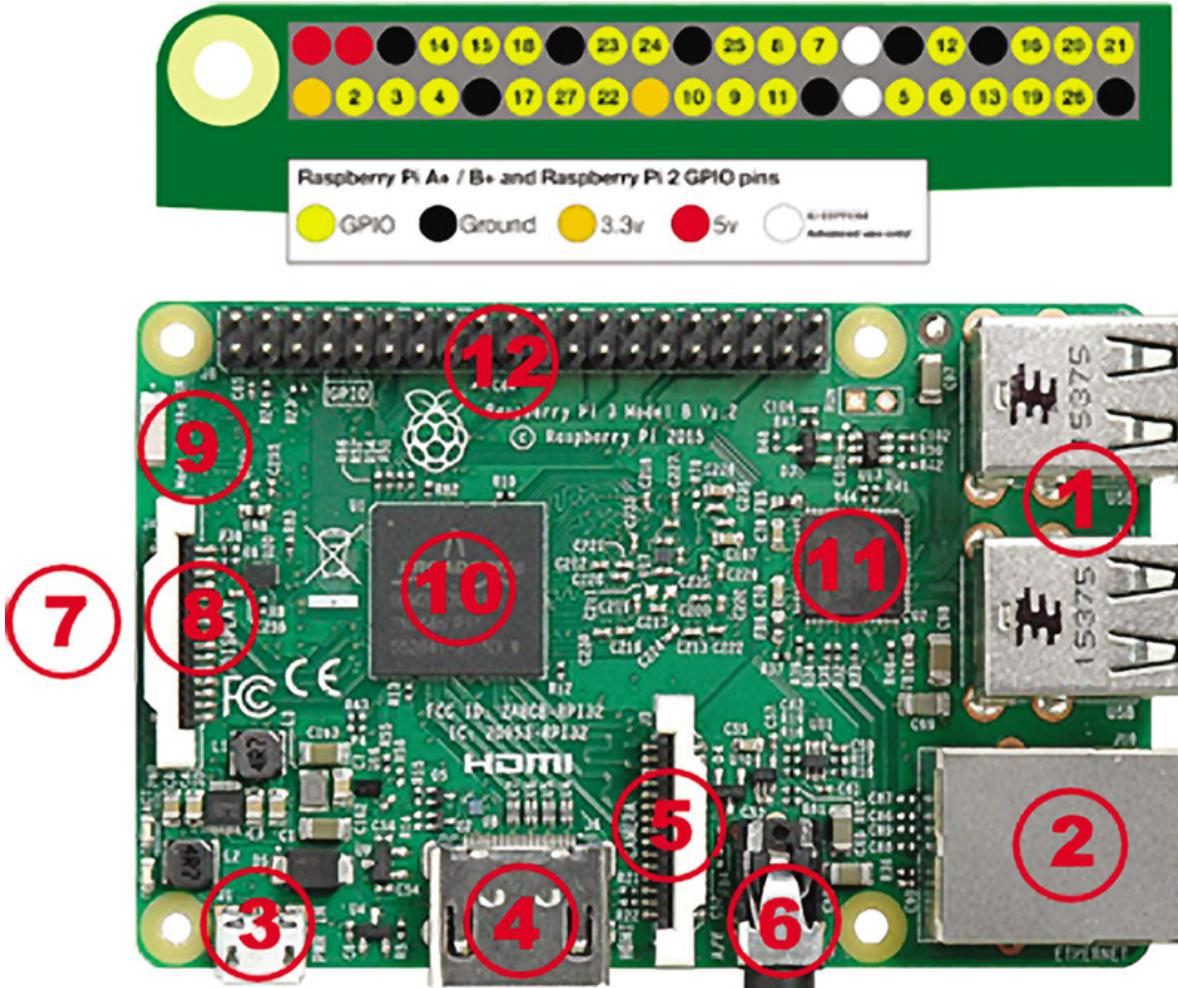
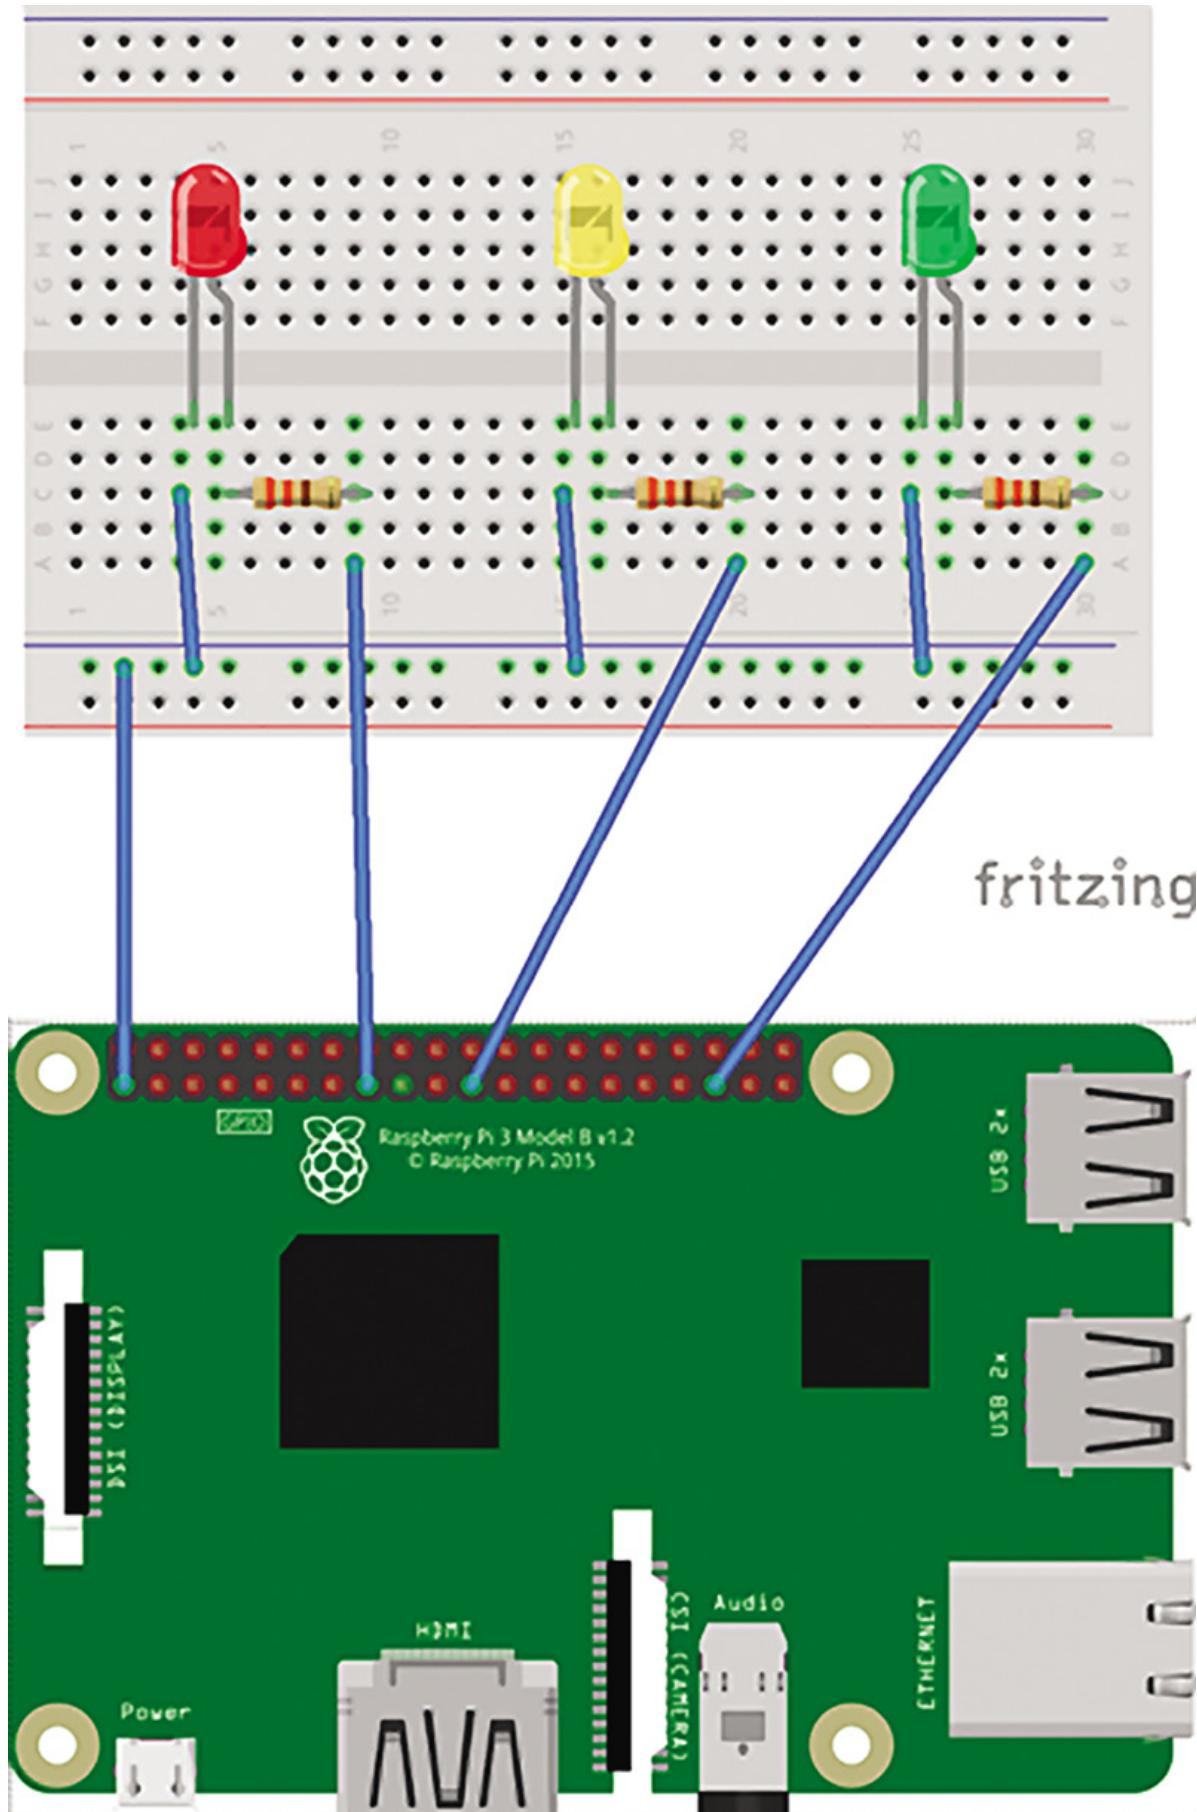

Figure 1 Raspberry Pi 3 Model B with GPIO
Figure 5 Circuit for the Traffic Lights
Once you have the board and the kit, it's time to get to know the hardware. Initially, you should explore the Raspberry Pi and see what it has to offer. **Figure 1** shows the board.
On the right side of the board in **Figure 1**, you can see the four USB ports (1) and the Ethernet connector (2). At the bottom, from left to right, you have the power jack in the form of a mini USB (3), the HDMI video (4), the camera port (5) and the sound output (6). On the left side of the board, you have the micro SD card slot (7) and a connector for an LCD display (8). You can also see the Wi-Fi and Bluetooth adapter (9). In the middle of the board, you can see the processor (10) and the network controller (11). On the upper side, you have the General Purpose Input/Output (GPIO) block (12), where you make all connections. Every pin has a different purpose, as you can see at the top of the figure.
To operate on the LEDs in the board, you must get the GPIO Controller and open the pin you want to control and set it the way you want. In **Figure 1**, you see that the eighth pin in the GPIO block (second row) is pin 22. You'll use pins 22, 9, and 19, and the resulting circuit will be like the one shown in **Figure 5**.